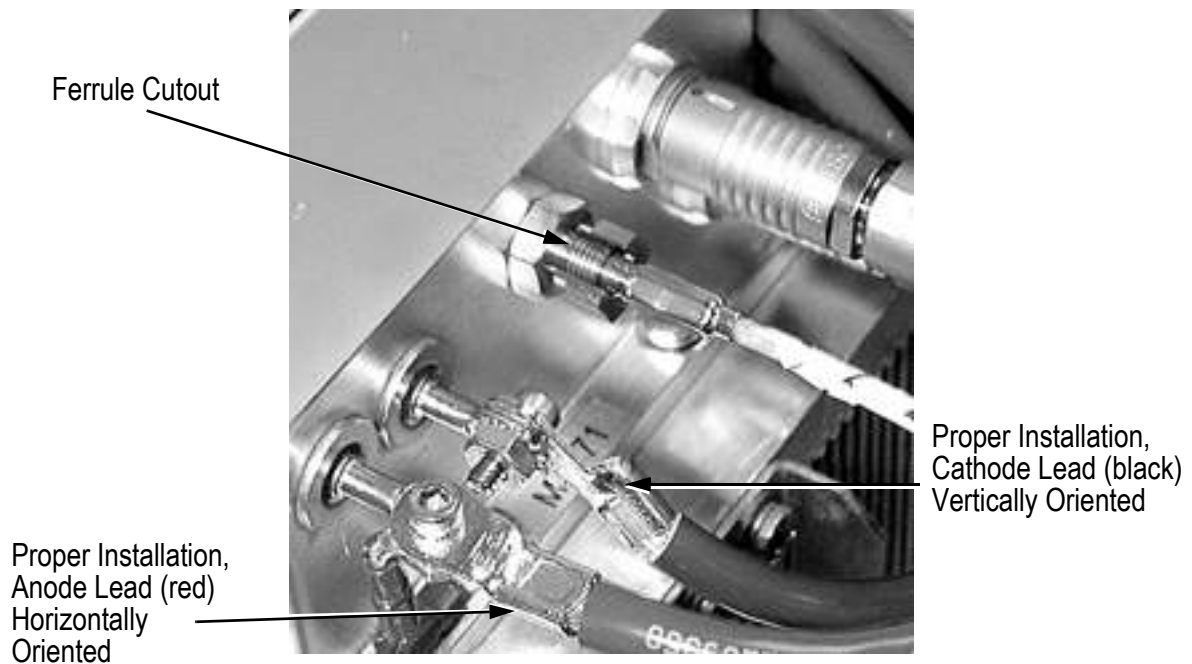

Figure 5.1-4. FAP-I Fiber Optic Connector
1. When removing or installing a fiber optic cable, do not allow the fiber optic cable to rotate while loosening the ferrule connector (Figure 5.1-4).
- b. Note that the ferrule is cutout, see Figure 5.1-4. Carefully extract the fiber optic cable from the FAP-I and remove the ferrule. Immediately install the two plastic protective caps, one over the end of the fiber cable and the second over the FAP-I optical output port (Figure 5.1-2).
After connection, the red anode lead should be horizontally oriented and the black cathode lead should be vertically oriented. This is illustrated in Figure 5.1-4 and is done to minimize the potential of generating/picking-up EM noise.